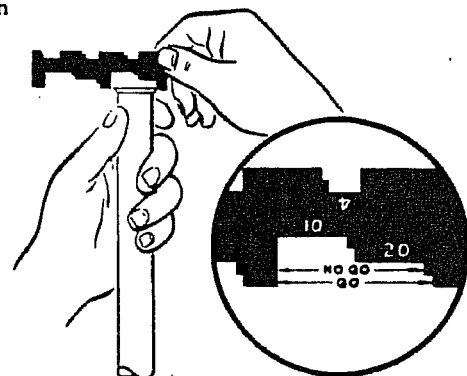

Figure 2-11
a. The flare O.D. Gage contains openings for checking flares on each size of tubing within range of the kit. All openings are clearly marked with the tubing O.D. size. Each opening has two steps, a Go and No-Go. Select the proper location on gage and pass flare through opening. (See figure 2-11.) The outer step is the "Go" position. The inner step is the "No-Go" position.